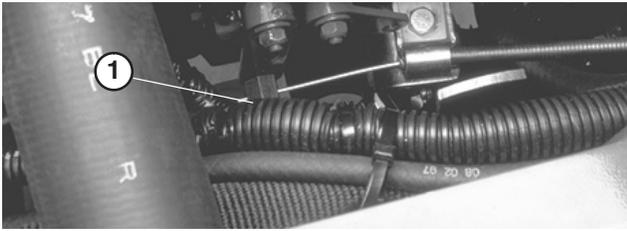

Figure 57
3. Hold the injection pump lever arm (Fig. 57) against the high idle stop and tighten the cable connector.